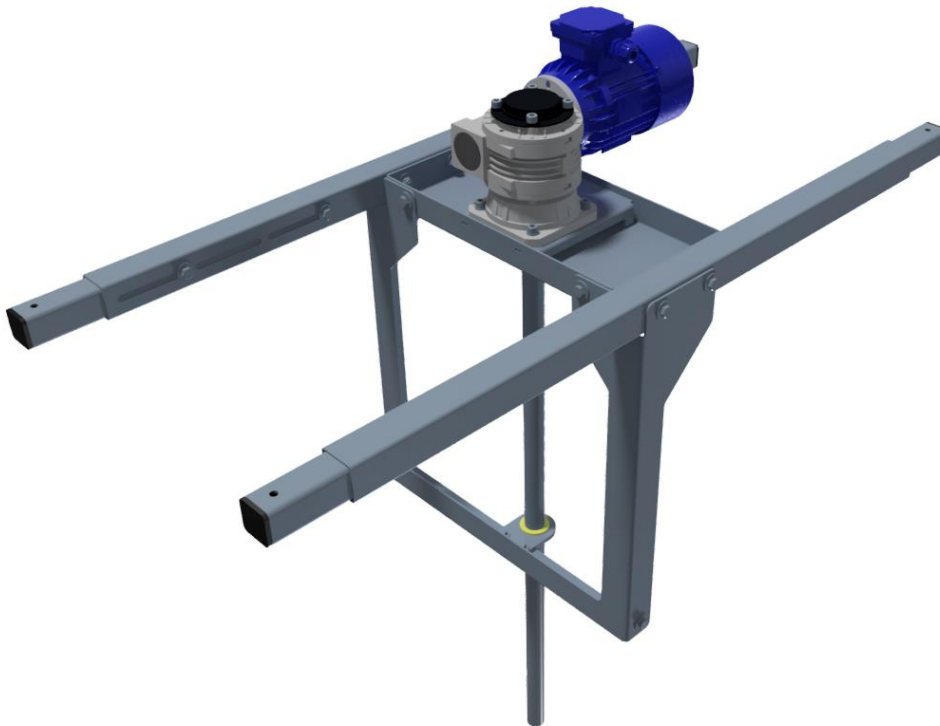

Figure 5 Enmix excluding the mixer blade
7. Re-attach the parts listed in step 4 to the top of the mixer shaft, making sure that they are firmly tightened; this will ensure that the mixer shaft (8) cannot fall out of the reduction gearbox (3).
8. Place the frame on its side, so that you can slide the mixer shaft into the frame via the top of the motor mounting tray (6).
9. Attach the reduction gearbox (3) to the motor mounting tray (6) with the following parts, making sure that the motor with reduction gearbox is positioned correctly; see Figure 5.
10. Put the cover (4) back onto the reduction gearbox (3) using the four hollow-head screws.
11. The Enmix will now look as shown in Figure 5.